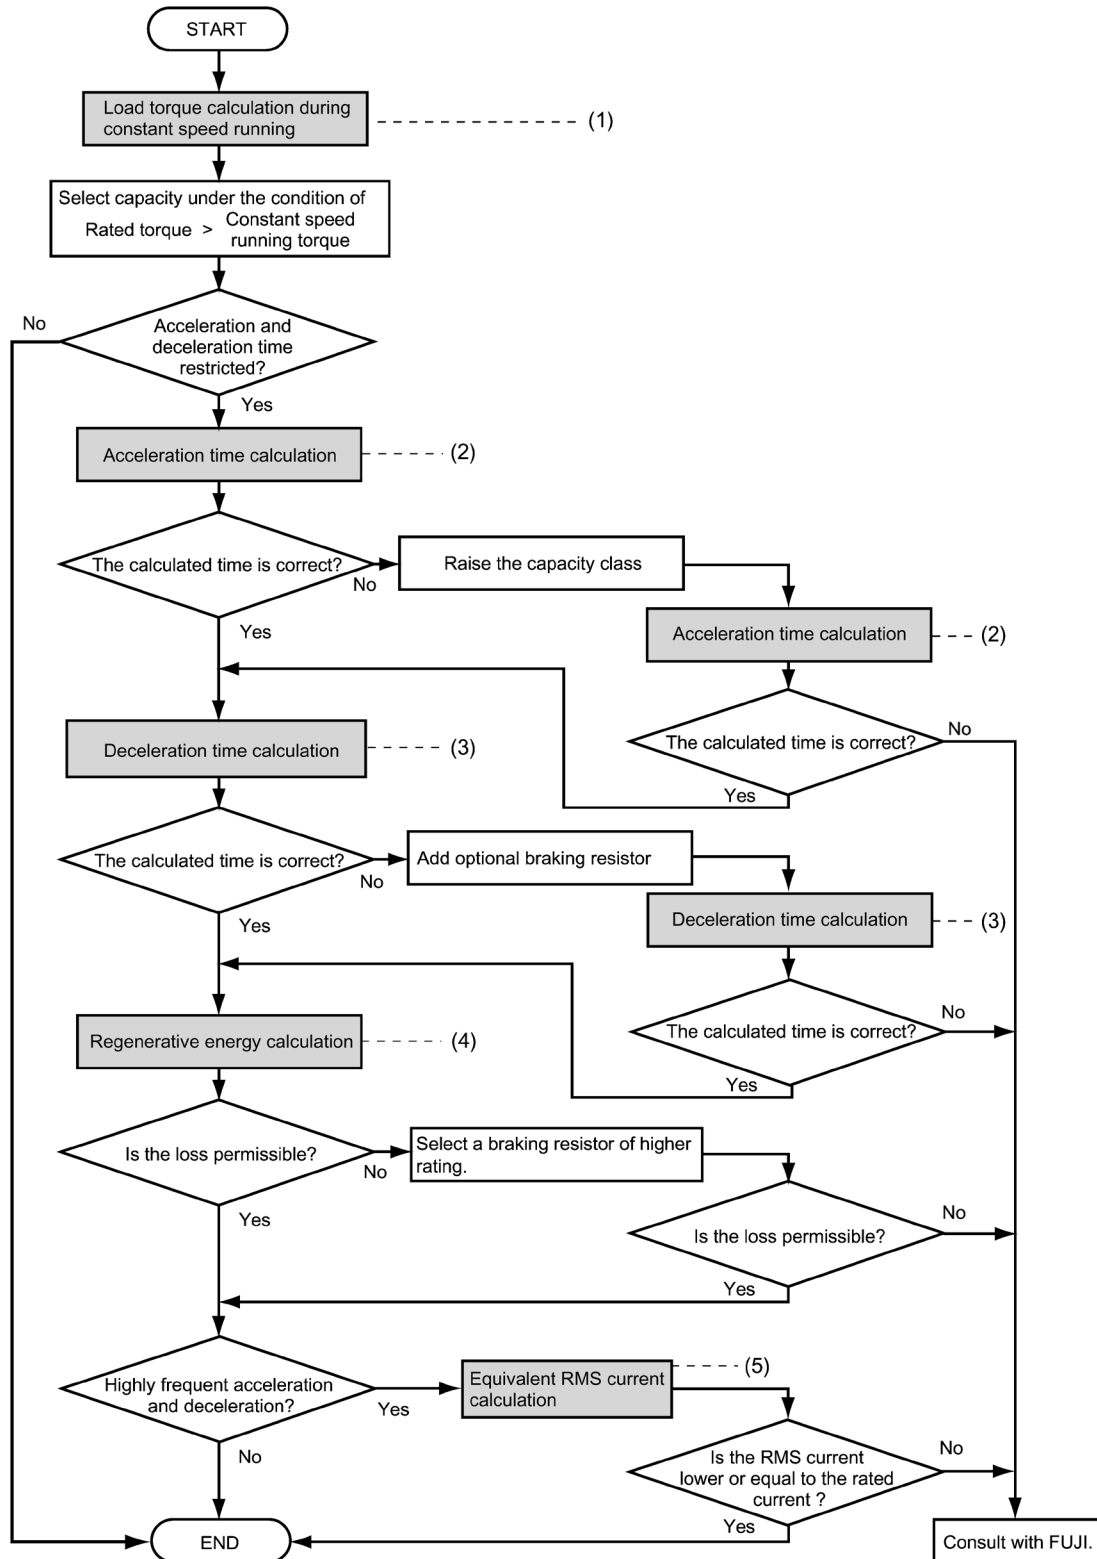

Figure 10.2-1 Selection Procedure
Figure 10.2-1 shows the general selection procedure for optimal inverters. Items numbered (1) through (5) are described on the following pages.